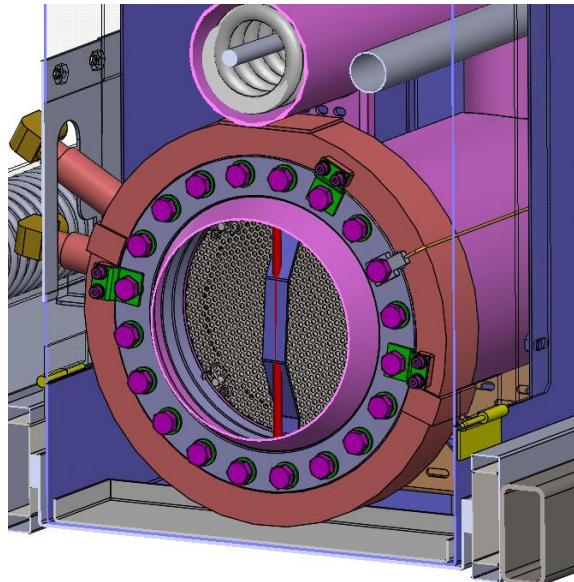

Fig 21
21. Flange weldment mount screw reference ALPHA SOP : AISN01160- MK7 NGBA Flux reactor assembly . (See Fig 21) Torque spec for Reactor bolts: 45nm